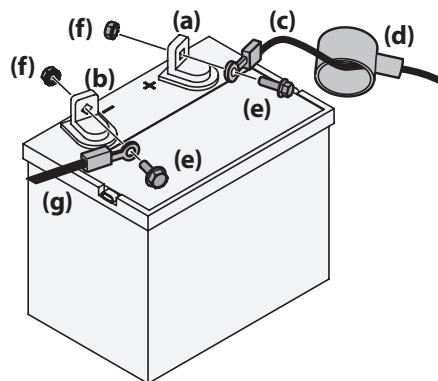

Figure 2-21
- a. Remove the red boot (d), if present, from the positive battery terminal (a) and attach the red cable (c), positive cable for the electric deck lift (if equipped) and positive cable for the 12V outlet (if equipped) to the positive battery terminal (a) with the bolt (e) and hex nut (f). See Figure 2-21.
- a. Attach the black cable (g), negative cable for the electric deck lift (if equipped) and negative cable for the 12V outlet (if equipped) to the negative battery terminal (b) with the bolt (e) and hex nut (f). See Figure 2-21.